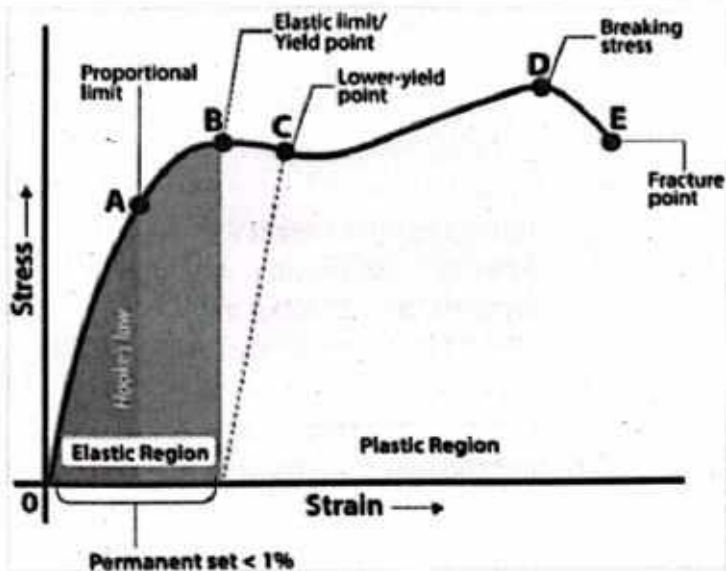

Figure 7.12: Stress-strain curve for a ductile material
To study the behavior of a material under applied stress, we use a **tensile test** machine which strains the material at a fixed linear rate and records the stress. The values are then plotted on a graph by a computer attached to the machine. Strain is plotted along horizontal axis and stress on the vertical axis. A typical stress-strain graph for a ductile material is shown in Fig. 7.12. In the initial stage of deformation, the stress increases linearly with the strain, as shown by the portion (OA) in the graph. This portion has linear proportionality between stress and strain and obeys Hooke's law. In this region, if the applied stress is removed the body regains its original shape.